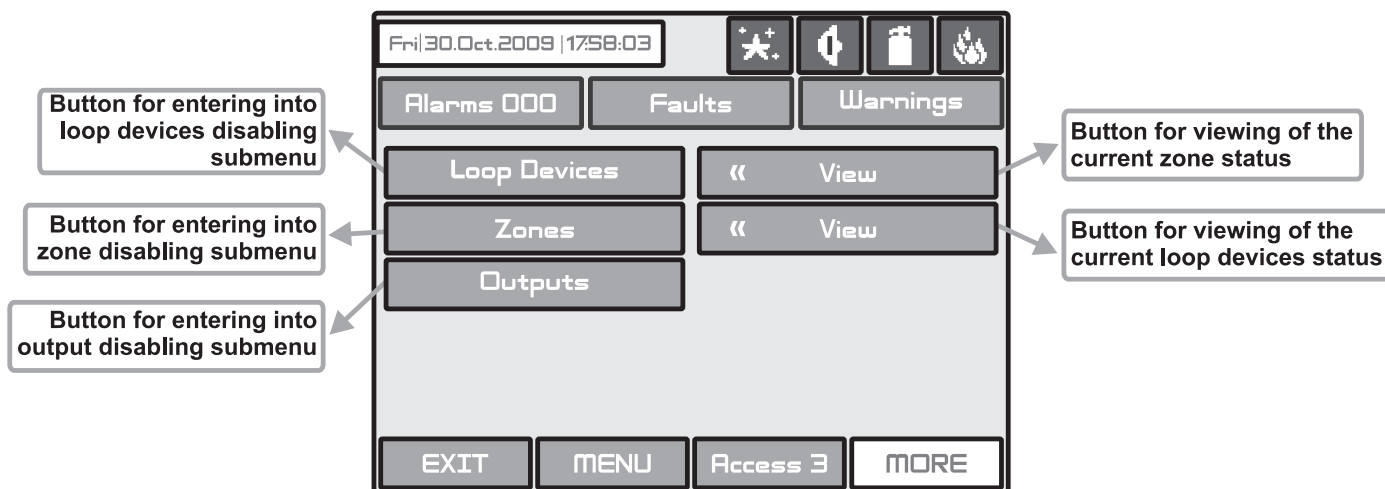
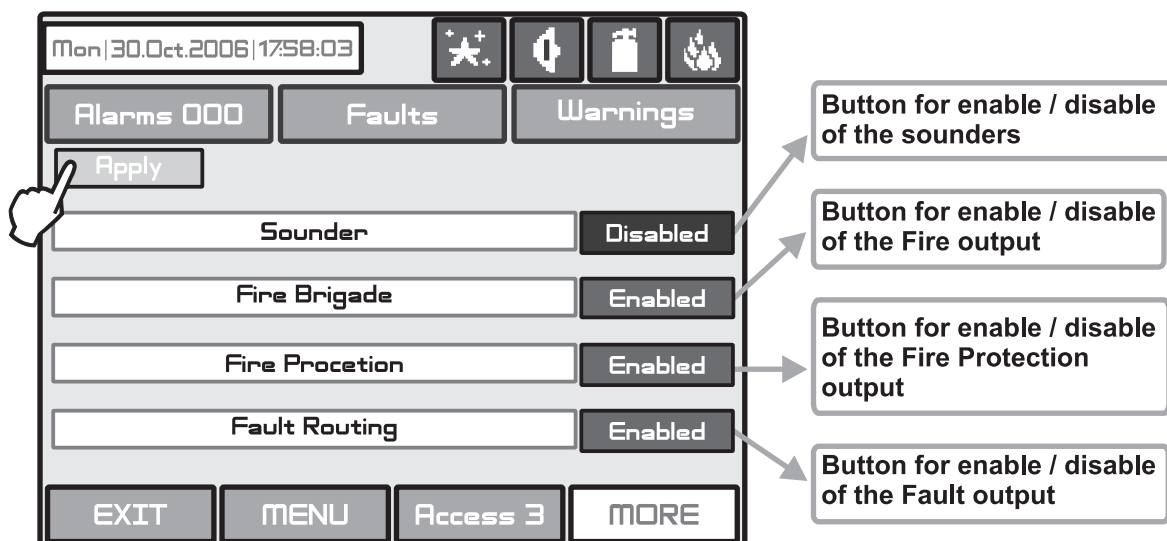

Fig. Screen 35.
Fig. Screen 38.
The user/installer can enable or disable the loop devices, zones and the outputs of the fire panel. To introduce enabling or disabling a function you can directly choose the respective button and make corrections, or first by pressing “**View**” button to look at the current status of the system and after that, if it is necessary, to enter new data – Fig. Screen 35.
The user/installer could first look at the current status of the loop devices by choosing “**View**” button situated next to the “**Loop devices**” button - see Fig. Screen 35. The current status of the loop devices programmed earlier in the system are displayed on the screen (see part Programming, item 3.3.2 Loop Devices) - Fig. Screen 36.
The user/installer could first look at the current status of the loop devices by choosing “**View**” button situated next to the “**Zones**” button - see Fig. Screen 35. The current status of the zones in the system are displayed on the screen (see part Programming, item 3.3 Zones) - Fig. Screen 37. In the case of a disabled zone, the panel generates a “**Zone Disabled**” error message and the “**Disable**” and “**General Fault**” LEDs on the control panel are activated.
Note: From the disabling menu you can directly enter in the loop devices configuration menu (Fig. Screen 8) / zone configuration menu (Fig. Screen 13) as choose “**Loop Devices**” / “**Zones**” button (Fig. Screen 35).
From the menu for disabling introduction - Fig. Screen 35, the user/installer can disable or enable the monitored outputs of the MAGPRO96 fire panel - **Sounder**, **Fire Brigade**, **Fire Protection** and **Fire Routing** - Fig. Screen 38. Use the **APPLY** button to confirm your choice.